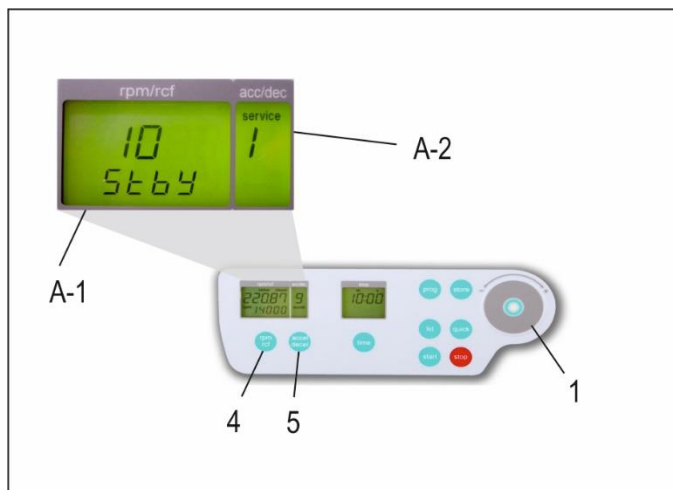

Figure 11
Proceed as illustrated, under point 1.7.1, to enter this program mode, press the key, "accel/decel" (5). In the display, "accel/decel" (A-2) flashes the word, "service". Select the letter "1" with the control field (1). As a result, appearing in the display, "rpm/rcf" (A-1), the word "Stby" (see Figure 11) . After pressing the key „rpm/rcf“, the standby mode can be turned off or pre-set to the needed value by turning the control field (1).